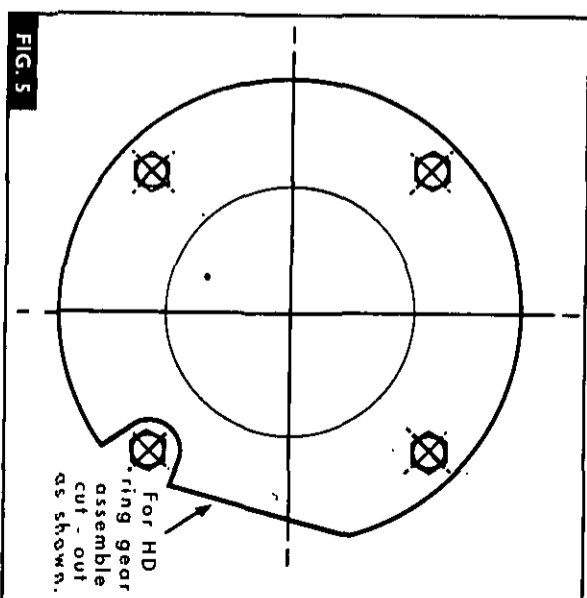

FIG. 5
1. Figure 4. Refit the backplate (67) and the shims (68) to the dowels (71) on the ring gear (72), then locate the dowels in the holes in the transmission case. Fit the thrust washers (70 and 73) to the planetary pinion carrier (69) and locate the carrier in the ring gear. Refit the cover plate (74), as shown in Fig 5. Fit the four bolts (76) and tighten them progressively and evenly to a torque of 4,9 kg-m (35 lb ft).